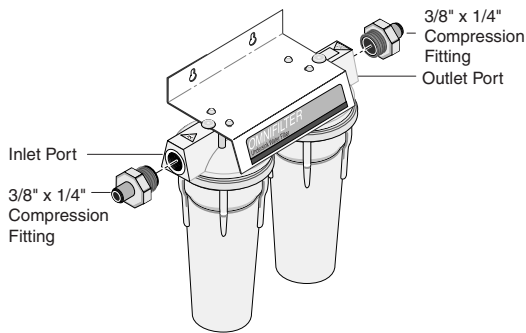

Figure 7
11. Install the two threaded compression fittings in the Filter Housing. See Figure 7.